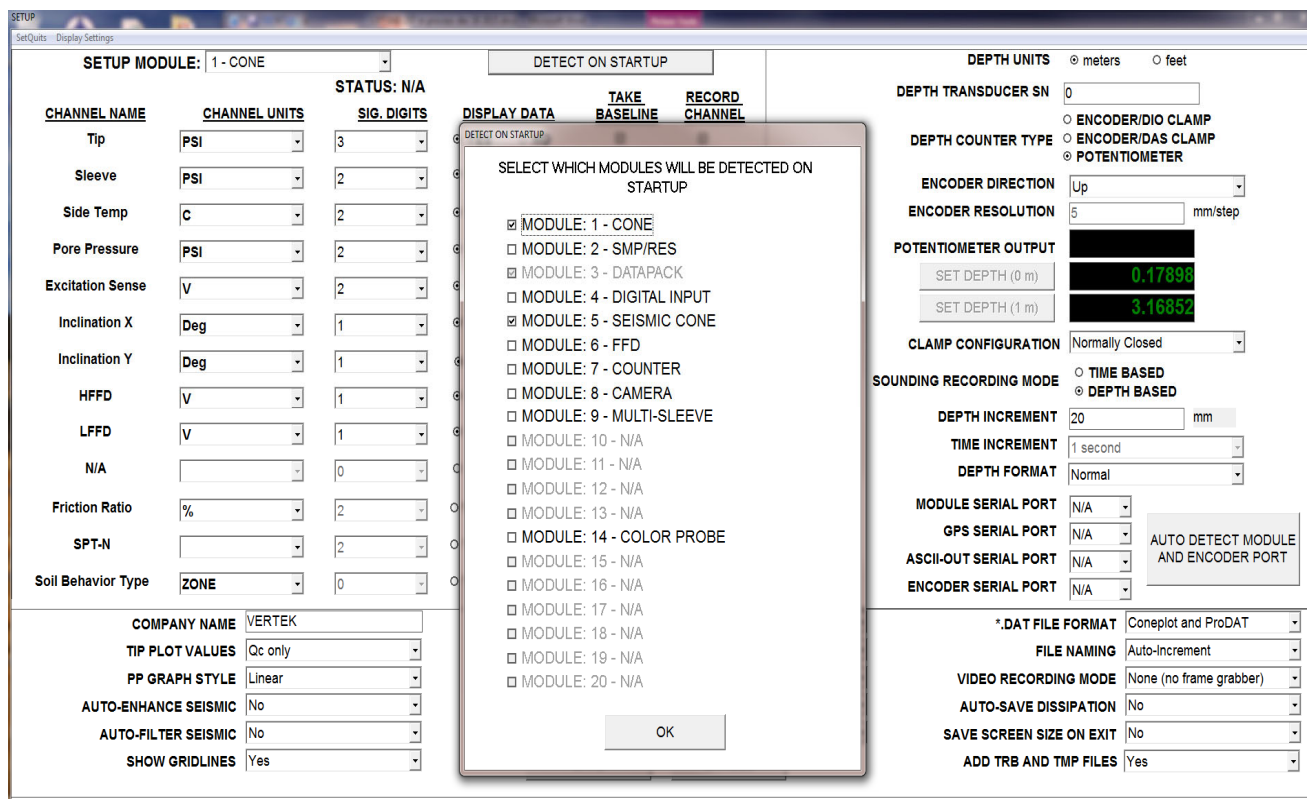

Figure 23 Detect On Startup
**DETECT ON STARTUP** Selecting yes for only the cones/modules being used will speed up the search time considerably by having the system only look for the items being used. See figure 23.